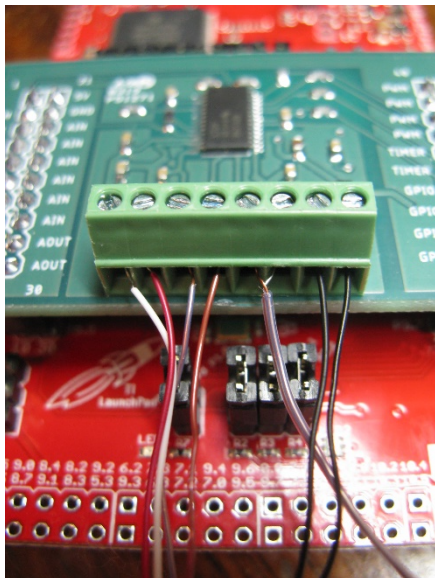

Fig. 2 Picture of DAQ wiring.
2. Assemble your system. Make sure the wiring is correct as shown in Fig. 2. The placement of the colored wires is important. Starting from the left, the first two wires are the heat flux sensor (white then red). The next two wires are the thermocouple (blue then red). The next two are for the second thermocouple (blue then red). The last two wires are black in either order for the heater.